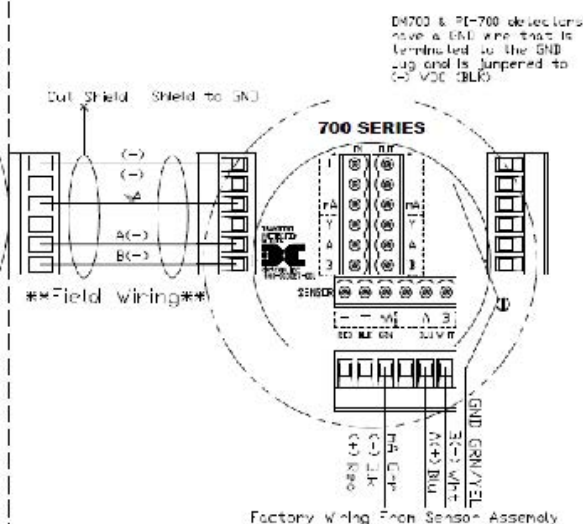

Figure 2: UDM Wiring Diagram
- The field wiring connections are made to the bottom of the UDM PCA using removable terminal blocks. There are three 6-pin terminal block on the bottom of the PCA, Sensor #1, Sensor #2 (if applicable), and Power / Output connections as shown in Figure 2.